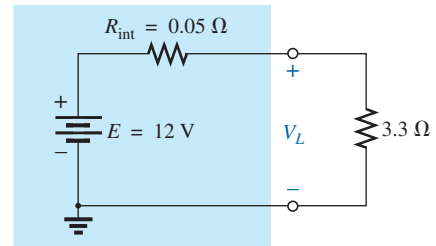

FIG. 5.127
45. a. Find the voltage to the load (full-load conditions) for the supply in Fig. 5.127.